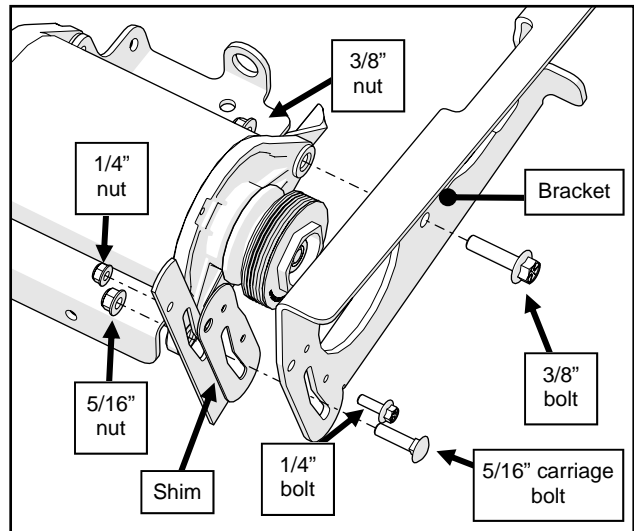

Fig. 1.6 (Alternator Bracket)
- 1.6** Install the bracket for the auxiliary alternator in the holes that were cleared in the previous step. Longer fasteners, provided with this kit, will replace those removed in the previous step. Figure 1.6.